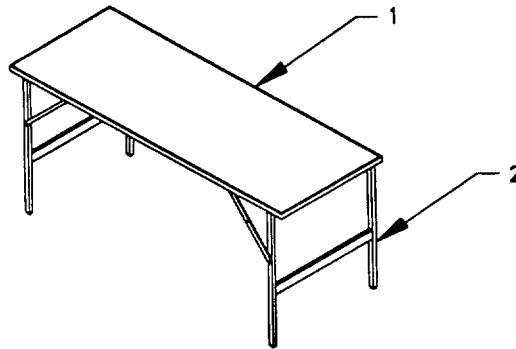

Figure 1-5.
e. Field Table Assembly. Two field table assemblies (1) are included with the MPCS. Folding leg assemblies (2) allow the field table assemblies (1) to be stored in a minimum amount of space. The field table assembly is illustrated in figure 1-5.